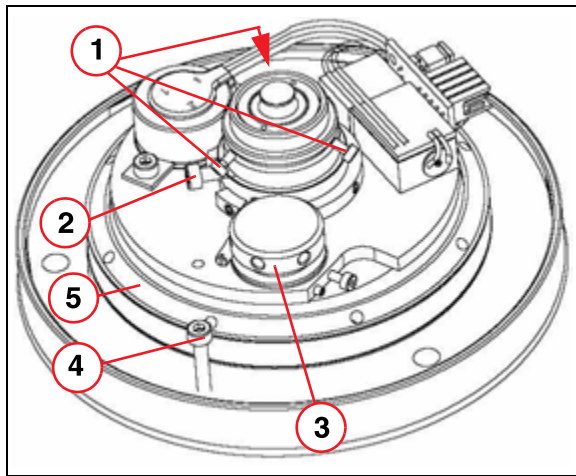

Fig. 27: Adjusting the camera
1. Loosen the clamping screw (4/Fig. 27 / p. 49).
2. Loosen the lock ring (5/Fig. 27 / p. 49).
4. Remove the 3 ISK screws from the camera flange (1/Fig. 27 / p. 49).
6. Rotate the camera until the plugs are at the same location prior to the adjustment and re-tighten the 3 M2 ISK screws (1/Fig. 27 / p. 49).
7. Tighten the lock ring (5/Fig. 27 / p. 49).
8. Retighten the clamping screw (4/Fig. 27 / p. 49).
1. Loosen the focus ring clamping screw (2/Fig. 27 / p. 49).
2. You can adjust the optimum sharpness by turning the focus ring (3/Fig. 27 / p. 49).
4. Retighten the focus clamping screw (2/Fig. 27 / p. 49).